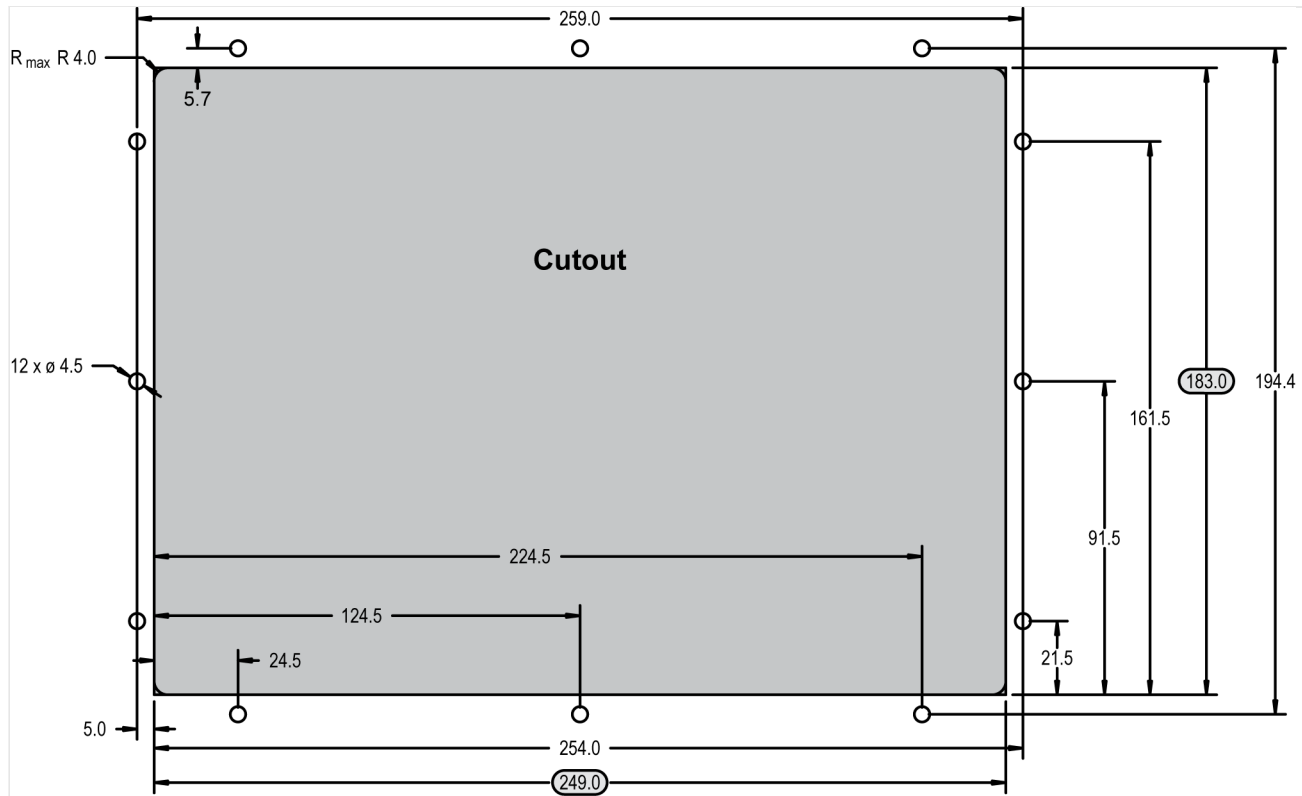

Fig. 17: Plastic housing - drill plan
The housing is equipped with 12 nut inserts (↪ Fig. 17), which must all be tightened properly to achieve the required degree of protection.
1. ▷ Cut out the panel and drill the holes according to the dimensions in Fig. 17 (dimensions shown in mm).